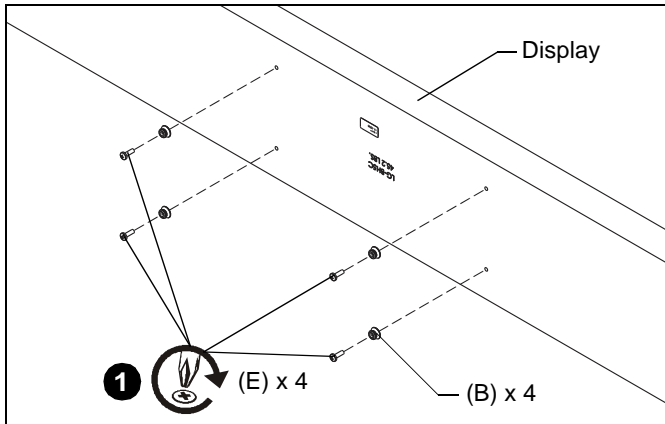

Figure 1
1. Attach four mounting buttons (B) to back of display using four M8 x 25mm Phillips head cap screws (E). (See Figure 1)